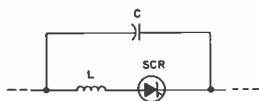

Figure 2.3
3. To slow down the rise of current, an inductance coil may be connected in series with the SCR. A capacitor connected across both the coil and the SCR will reduce the sudden step in voltage applied to the line, as shown in Figure 2.3.